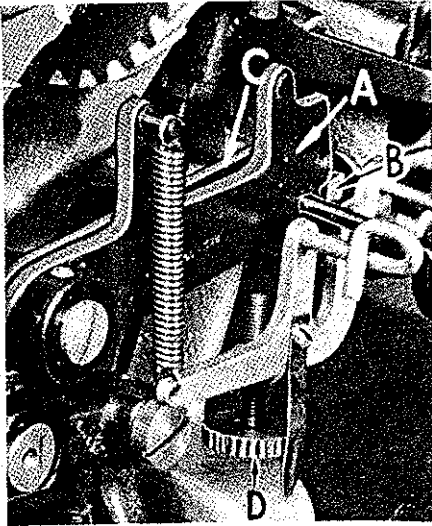
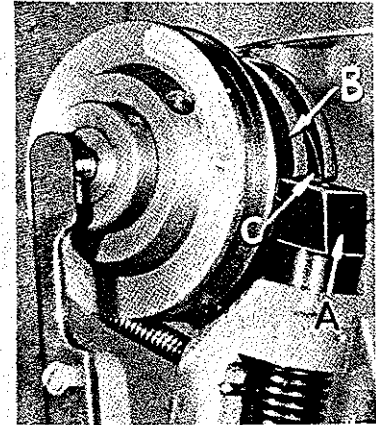
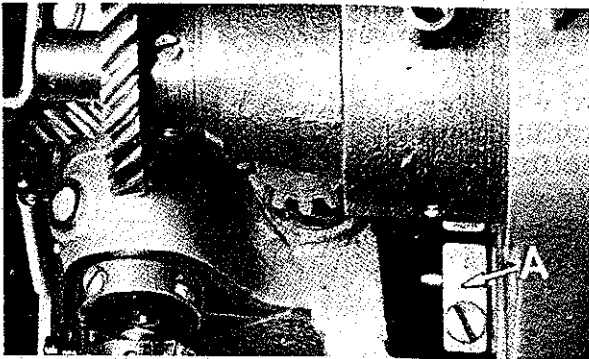

Fig. 15
Fig. 16
Fig. 17
Check the pull-off lever plunger (B, Fig. 15) to be sure it operates freely. Looking down into the head of the machine under the front main shaft bearing, loosen the clamp screw in driving crank (A, Fig. 17), and manually raise the pull-off lever
The pull-off lever (A, Fig. 15) is set correctly when it snaps off the plunger (B) as the stop motion plunger (A, Fig. 16) comes to an abrupt stop against the stop motion disc (B) when operating machine by hand.
manually raise the pull-off lever (A, Fig. 15) and plunger operating lever (C). Then, carefully lower the pull-off lever (A) until it just drops off the point of the plunger (B). Then, carefully tighten clamp screw in driving crank (A, Fig. 17).
If too much thread tail shows on completed tack, turn pull-off lever control screw (D, Fig. 15) clockwise to reduce length of tail. If starting thread is too short, causing loss of stitches, turn the control screw counterclockwise until slight amount of tail shows.